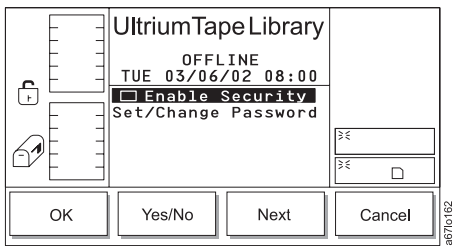

Figure 4-129. Secure Dialog
- Press the button below the **OK** softkey to redisplay the Secure Dialog and view the new setting (see Figure 4-129).